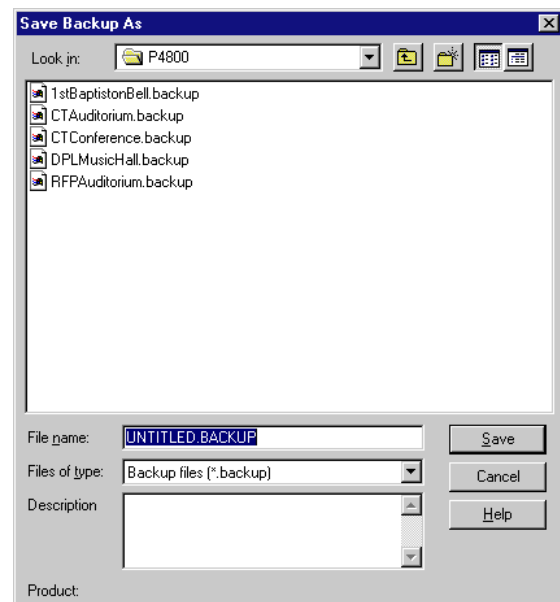

Figure 22 – Save Backup As Dialog
7. The Save Backup As dialog appears, as pictured below on the right in figure 22.
2. The Open Backup dialog will appear, similar to the Save Backup dialog pictured on the right in figure 22.